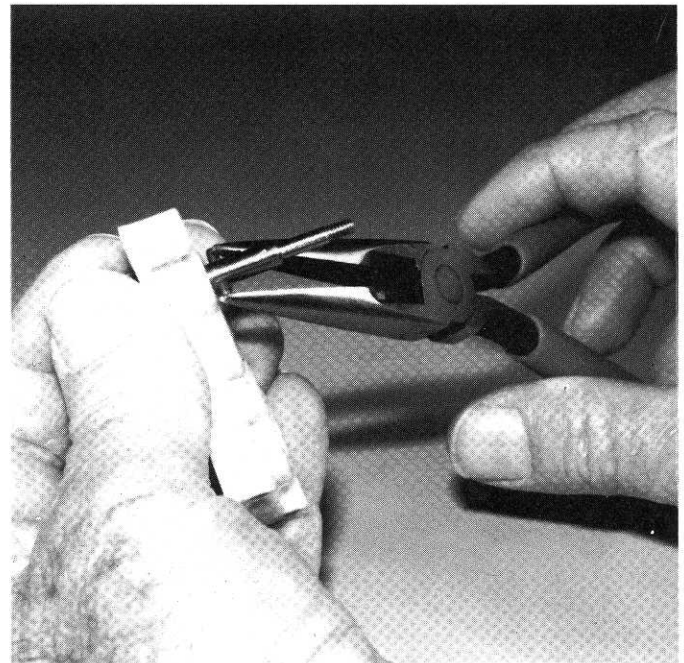

Fig. 51
□ **Fig. 51** Open Bag E and using a pliers, squeeze the roll pin into the hole in the shaft until it is equally spaced.